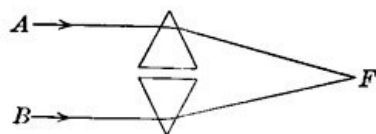
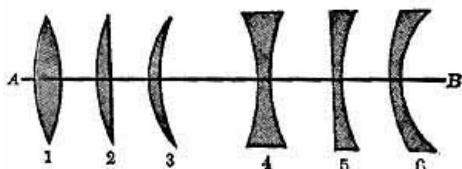

FIG. 69.—Rays of light are converged and focused at *F*.
FIG. 71.—The different types of lenses.
**112. Lenses.** If two prisms are arranged as in Figure 69, and two parallel rays of light fall upon the prisms, the beam *A* will be bent downward toward the thickened portion of the prism, and the beam *B* will be bent upward toward the thick portion of the prism, and after passing through the prism the two rays will intersect at some point *F*, called a focus.
Lenses are very similar to prisms; indeed, two prisms placed as in Figure 69, and rounded off, would make a very good convex lens. A lens is any transparent material, but usually glass, with one or both sides curved. The various types of lenses are shown in Figure 71.
The first three types focus parallel rays at some common point *F*, as in Figure 69. Such lenses are called convex or converging lenses. The last three types, called concave lenses, scatter parallel rays so that they do not come to a focus, but diverge widely after passage through the lens.
**113. The Shape and Material of a Lens.** The main or principal focus of a lens, that is, the point at which rays parallel to the base line *AB* meet (Fig. 71), depends upon the shape of the lens. For example, a thick lens, such as *A*